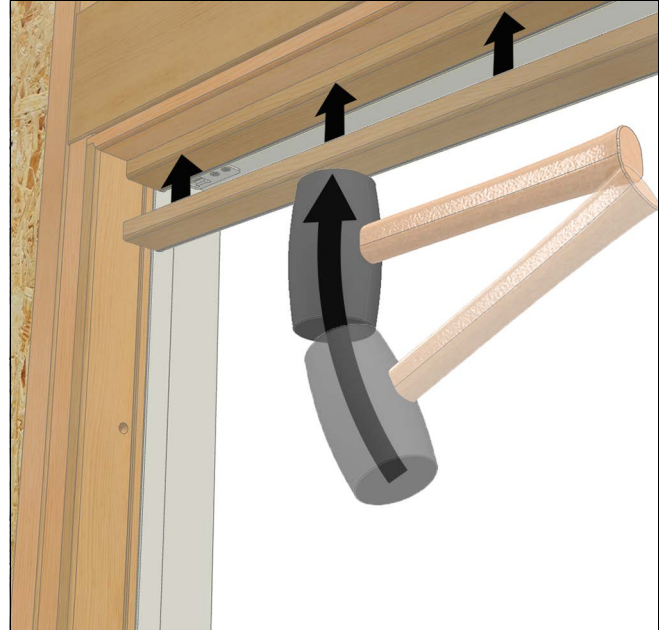

Figure 8
6. Once install is complete, panel stops can be installed head jamb before jamba. Install panel stops with weather strip bulb facing toward the exterior. Be careful not to mar the finish or scratch finish on the parts. A non-marring mallet can be used to tap the double barbed stop into place. Ensure the mating liner kerf is free of debris before installing. See Figure 8.